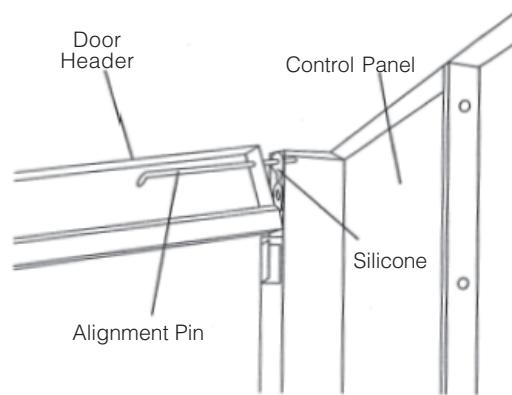

Figure 3-14. Position Door Header
16. Position door header between corner panels using alignment pins to align header and panel bolt holes (see Figure 3-14). Attach door header to corner.